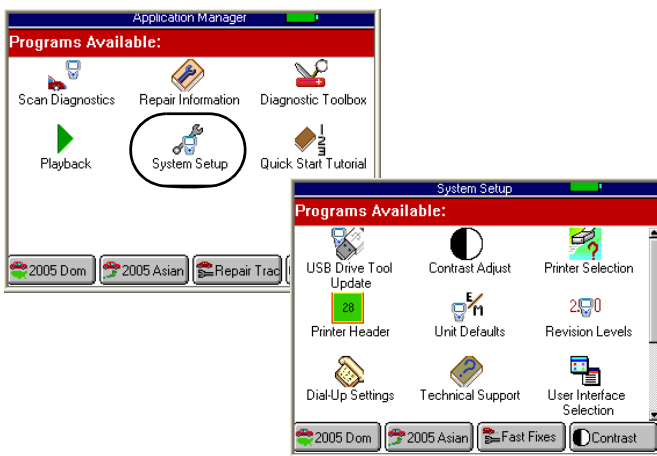

Figure 15.1: Application Manager and System Setup Screens
- 2 Follow the steps in Basic Procedure on page 69 to display the System Setup screen (see Figure 15.1).
- Follow the steps in Basic Procedure to display the System Setup screen (see Figure 15.1).
- 1 Follow the steps in Basic Procedure on page 69 to display the System Setup screen (see Figure 15.1).